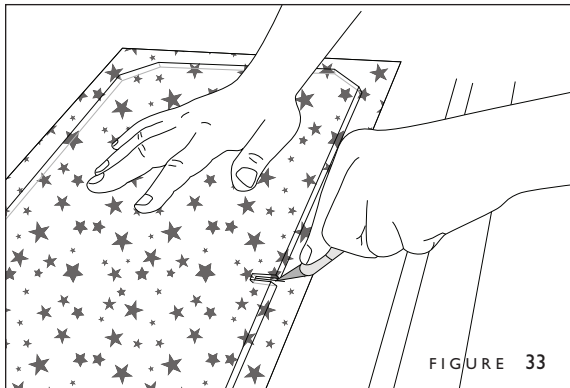

FIGURE 33
2. In the center of the template notch closest to you, cut a slit at the cover wrap bottom. (Figure 33).